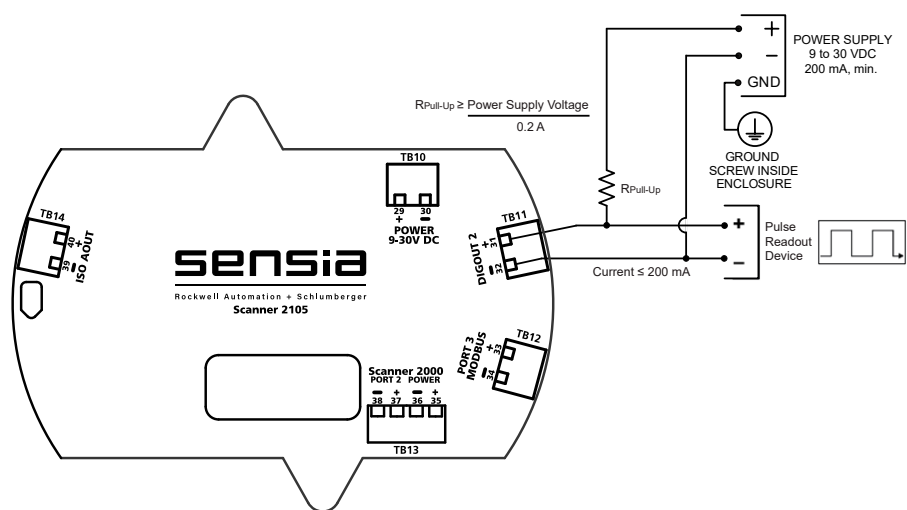
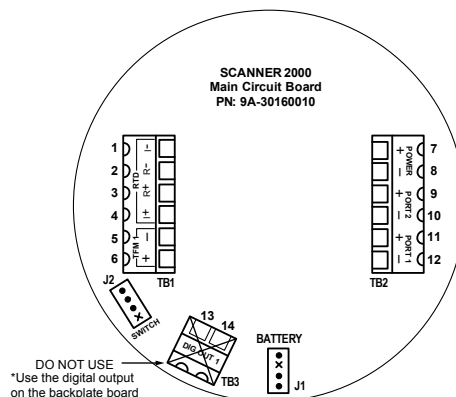

Figure 3.12 - Pulse output wiring on backplate board
Figure 3.14 - DO NOT USE the main board digital output (functionality has been moved to the backplate board)
- e. Connect wiring for output signals, if appropriate. See Figure 3.12, pg. 66, Figure 3.19, pg. 69, and Figure 3.20, pg. 69, for wiring diagrams.
The standard NUFLO Scanner 2105 flow computer supports a solid-state digital output that is configurable as either a pulse output or an alarm output. As a pulse output, the pulse width duration and pulse representation are both configurable. Because the circuit is isolated, it can be used in conjunction with any other feature on the instrument. A two-conductor cable from the NUFLO Scanner 2105 flow computer to the remote location is required. Wire as shown in Figure 3.12.
Note	Digital output functionality was removed from the "DIG OUT 1" (Figure 3.14) on the Scanner 2000 main board, and added to the "DIG OUT 2" (Figure 3.12, pg. 66) on the backplate board.